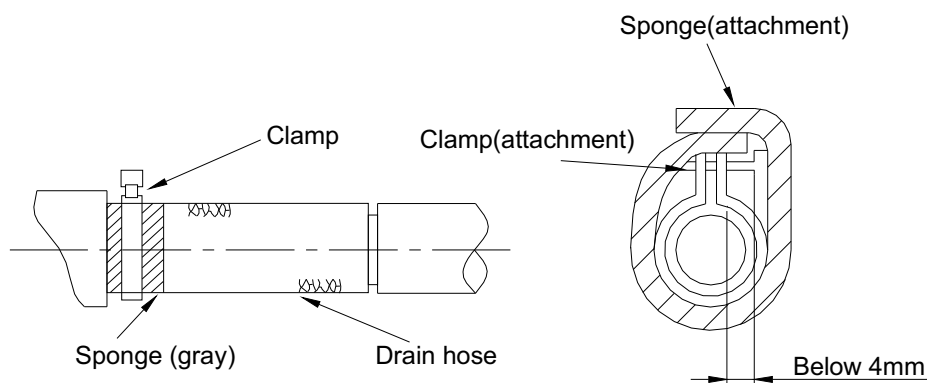

Figure 1-3-7
- ◆ Purchase general-purpose hard PVC pipe locally to be used as the drainage pipeline. When carrying out connection, place the end of the PVC pipeline into the drainage hole. Use flexible drainage tube and tighten it with thread loop. Never use adhesive to connect the drainage hole and the flexible drainage tube. (As shown in Figure 1-3-7)